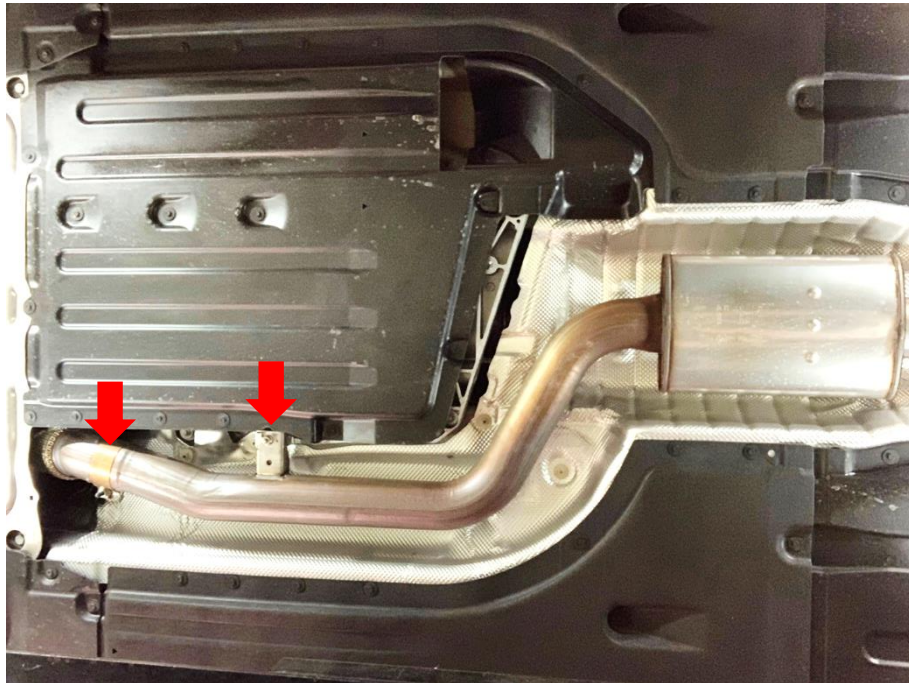

Fig. 1
1. Remove the front pipe clamps and bushes screws.(Fig1)